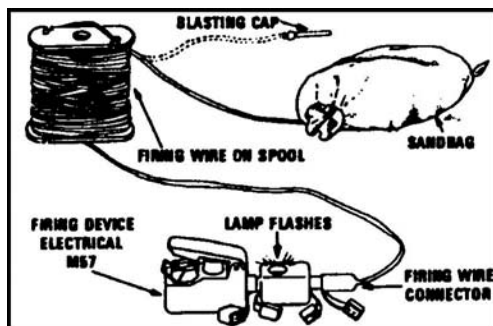

Figure 3. Circuit test of the M18A1 Claymore mine firing system.
- g. Plug the connector of the firing wire into the test set (Figure 3).